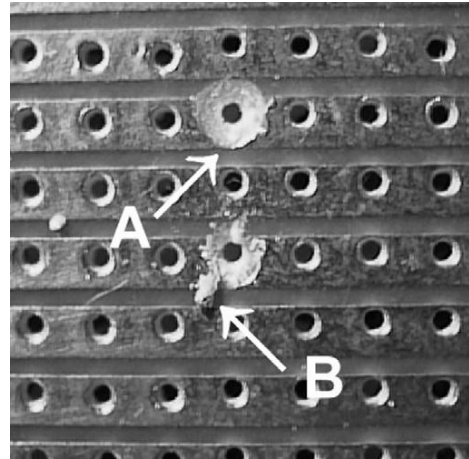

FIGURE 22.12
**Cut the strips:** Use a spot face cutter for this. When you have finished, use a magnifier to examine the cuts. Look for incomplete cuts, where a 'wire' of copper still connects the strip across the intended cut (A, Figure 22.12). Also look for and remove any flakes of copper that might bridge the gap between adjacent strips (B, Figure 22.12).